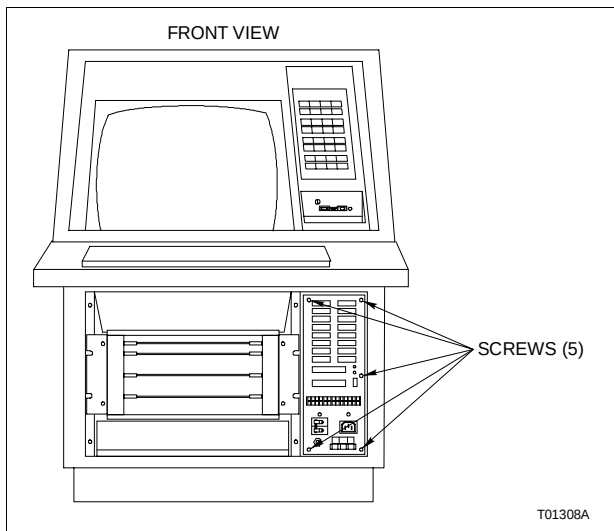

Figure PR28-2. PEP Replacement
- ☐ 6. Use the bladed screwdriver to remove the five screws from around the front of the PEP (Fig. PR28-2).